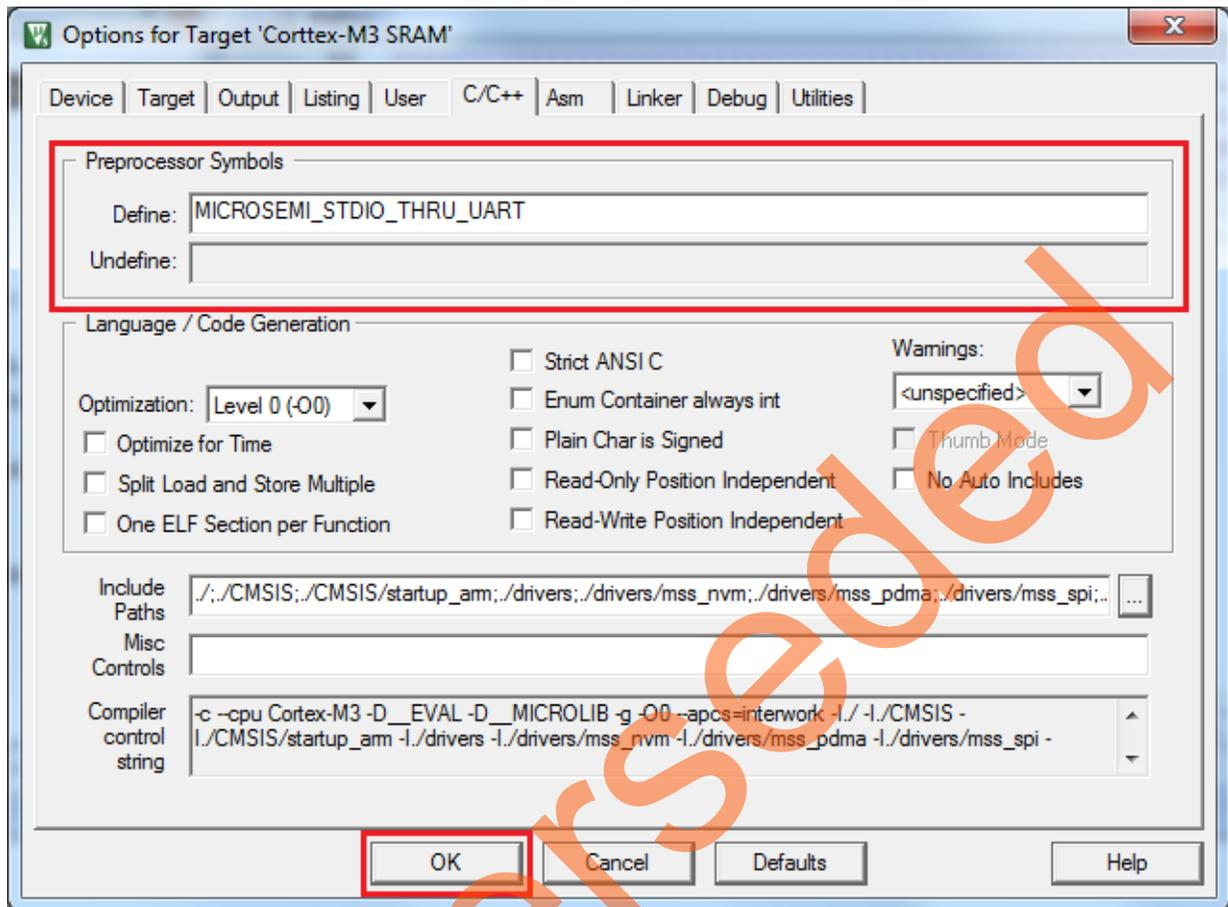

Figure 24 • Target Options-Adding Symbols
- b. Go to **C/C++** tab and enter **MICROSEMI_STUDIO_THRU_UART** at **Define** under Preprocessor Symbols as shown in Figure 24 on page 23.